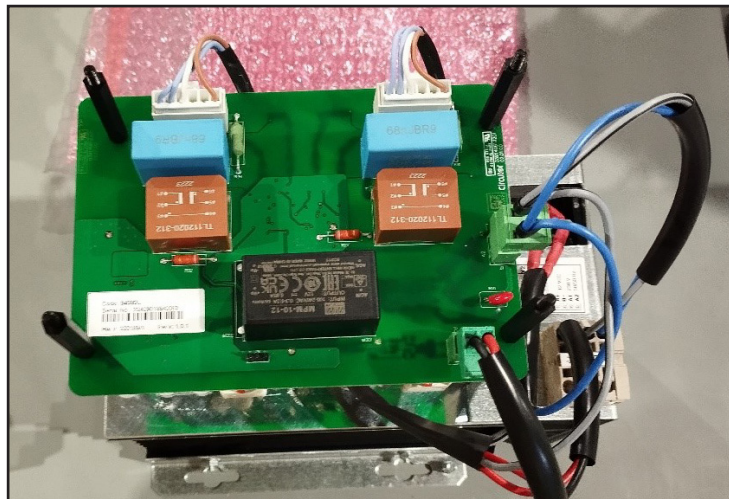

Figure 5: Step 5.
5.- Install the 4 rods of 30 mm on the PCB, Figure 5.